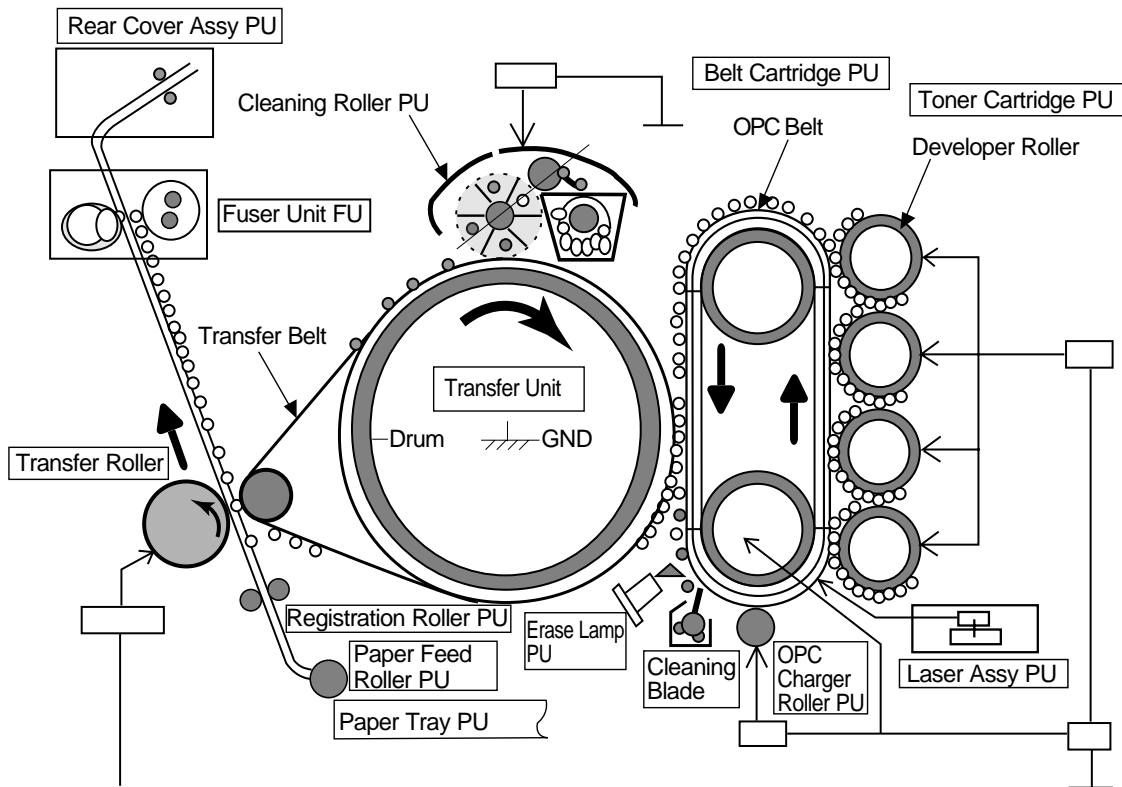

Fig.4-9
- (1) Process of Print System (See Fig.4-9.)